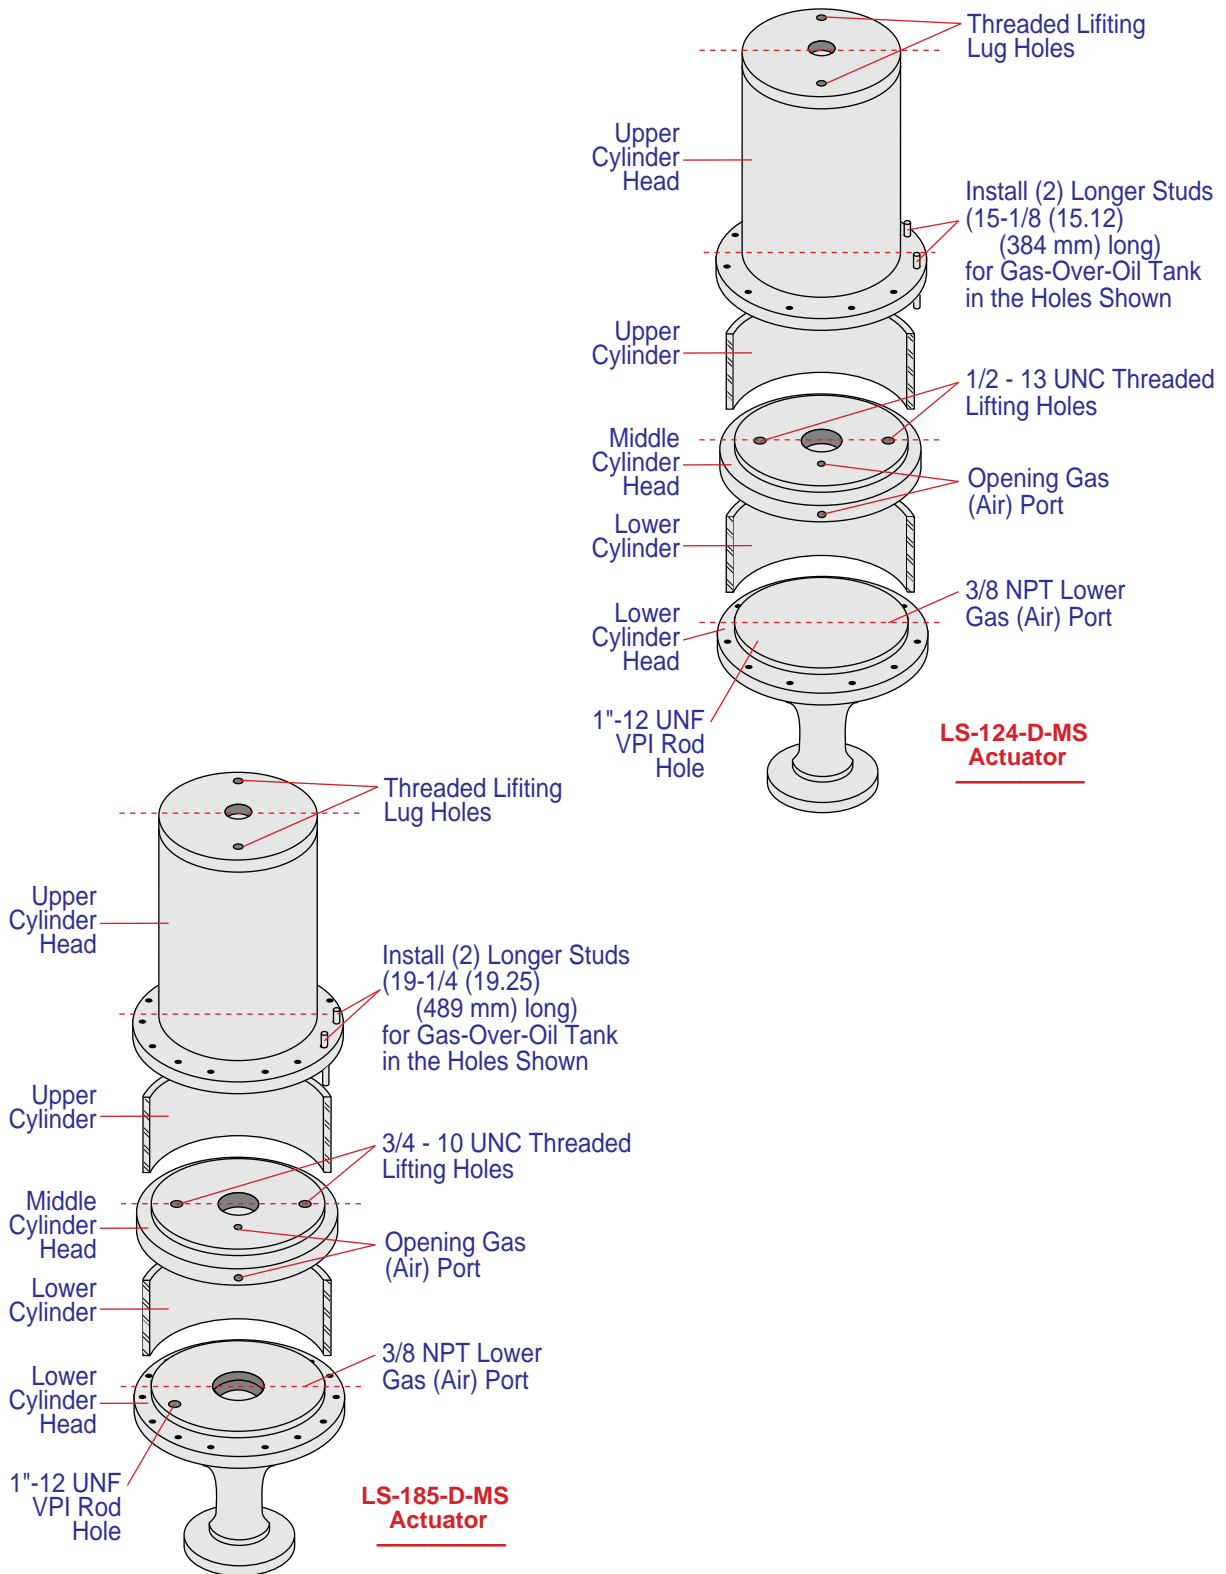

FIGURE 50
- Ⓔ Refer to Figure 50 for proper head stacking orientation.
10. Install O-rings (Items 39 & 40) on middle cylinder head (Item 36). Install the middle cylinder head with the two tapped holes up (which are provided for lifting). Align the marks “↑” with the lower cylinder (Item 42) and the lower cylinder head (Item 50) if they were marked at disassembly. (Note: If they were not marked, align as shown in Figure 50.)
(Note: If they were not marked at disassembly, align as shown in Figure 50.)
16. Install the studs and nuts (Items 12 & 13) using a criss-cross pattern to tighten. (Note: There are two longer studs and these should be installed as shown in Figure 50 for the gas-over-oil tank.)